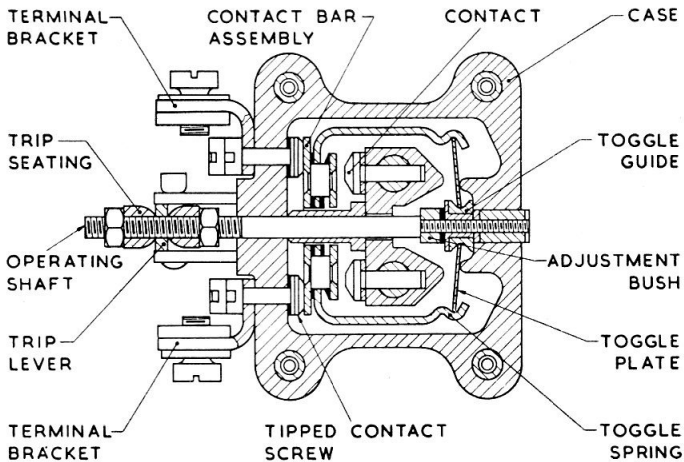

Fig. 2. Sectional drawing of switch
3. The switch is operated by a central longitudinal spindle which carries a toggle guide connected through a toggle plate and spring to a moving contact bar assembly. As the trip lever at the end of the operating shaft is moved outwards, i.e., to the left as shown in *fig. 2*, the toggle plate is stressed until it passes top dead centre. At this point it snaps over to its new position, carrying the contact bar assembly with it, so breaking contacts C and D and making contacts A and B. After the pressure is released, a spring returns the switch mechanism to its normal position.